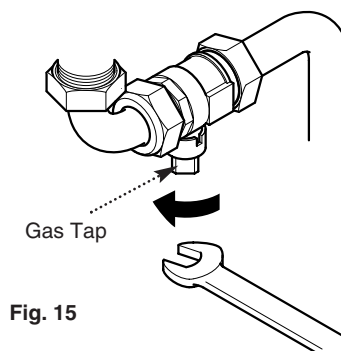

Fig. 15
Turn off the gas supply at the meter and call your gas supplier immediately. It is possible to isolate the boiler and at the isolating valve (Fig. 15).
2. Using a suitable open ended spanner or screwdriver turn the square on the gas tap to the left to isolate the gas supply at the boiler (Fig. 15).